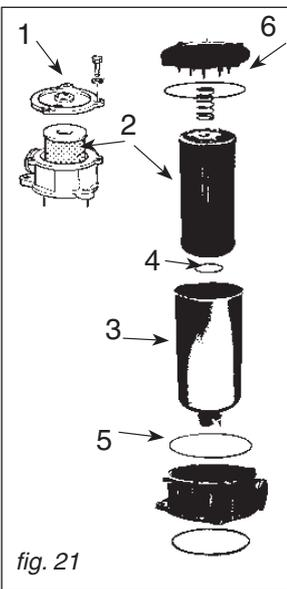

fig. 21
**Cleaning of the wire mesh filter on the tank** (oil return to the oil-tank) fig. 21